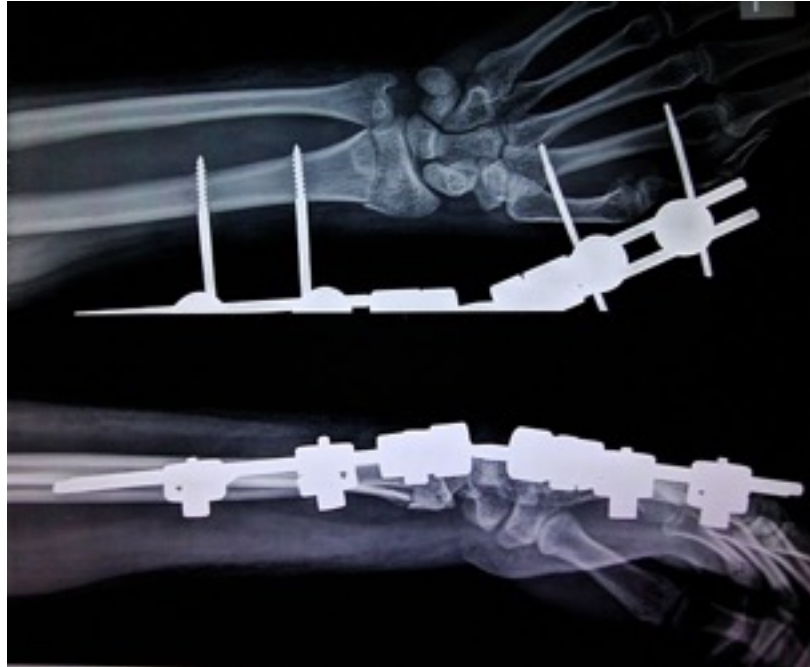

Figure 23: X-ray image of an external fixator used to stabilize a fracture of the radius bone
- **External fixation:** Pins and rods external to skin; used for open fractures, when internal fixation is too risky, or when adjustments/dynamization are needed (see Figure 23 above).